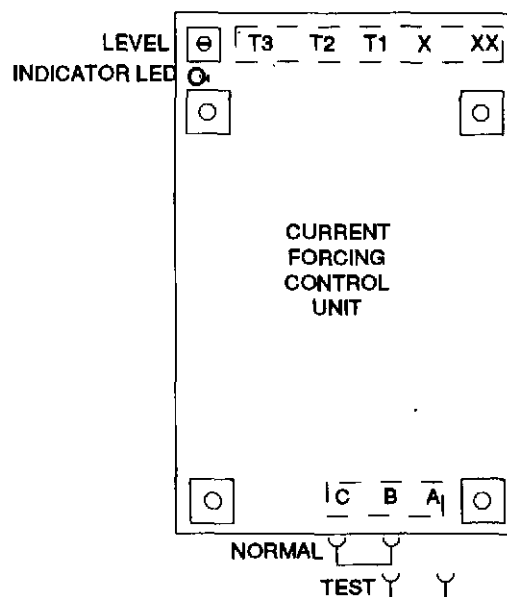

Fig. 5
2. Connect the SETTING LINK on the current forcing control board as shown to terminals B and A and turn LEVEL control potentiometer fully anti-clockwise. Refer to Fig. 5 for link and potentiometer location.